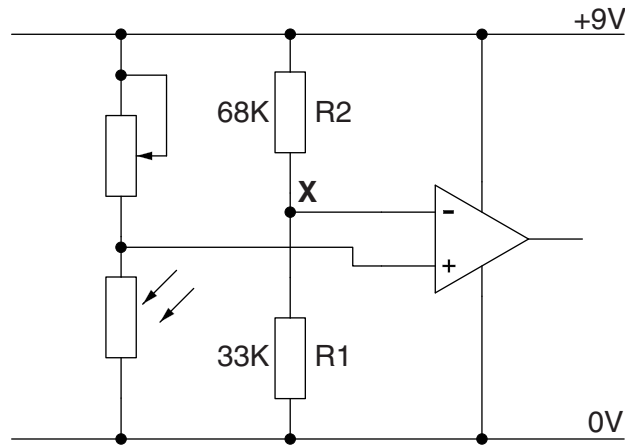

Fig. 12
- (iii) Fig. 12 shows the first circuit idea for the warning system which will provide a change in signal when it is night time.